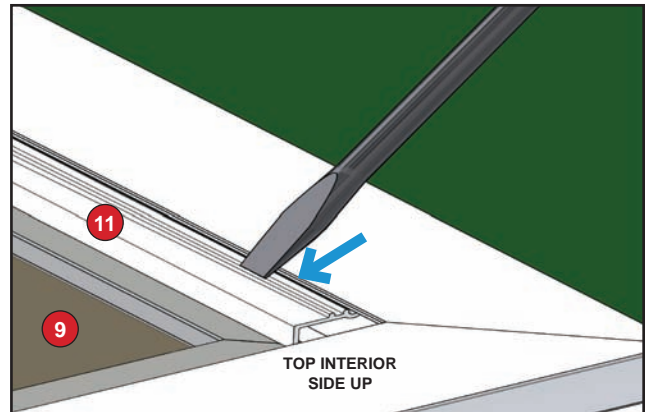

Figure 6
4. Using a flathead screwdriver or putty knife and starting at one end of the retainer, push the retainer down and away from door frame (Figure 6).